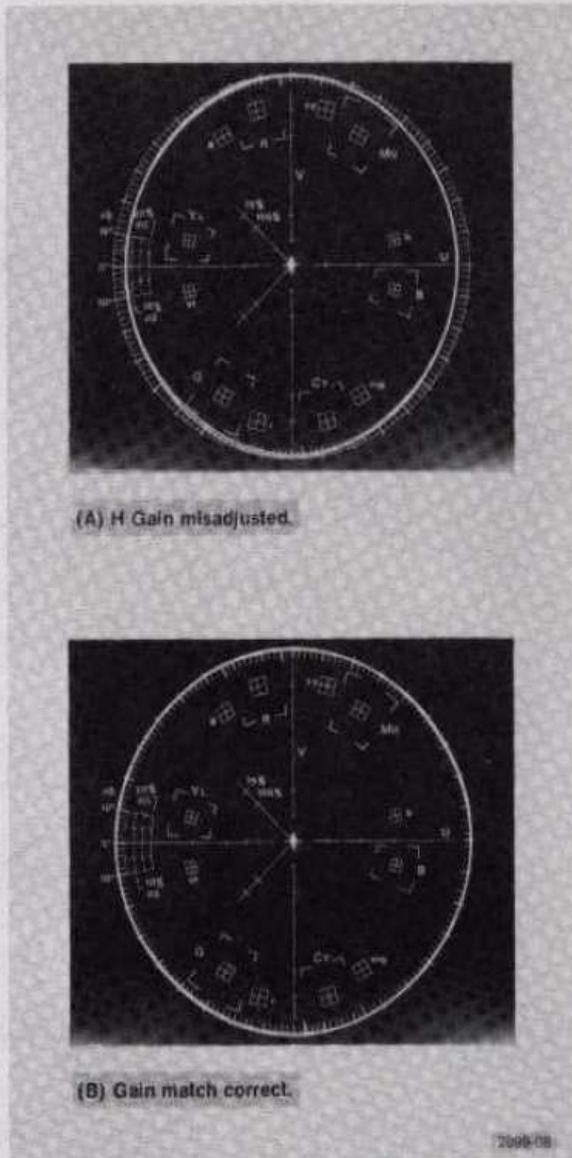

Fig. 5-31. Gain adjustment.
- c. ADJUST—R1403 (Cal Gain) until the display amplitude is within 1% of the graticule edge on the R-Y (V) axis. See Fig. 5-31.
- d. ADJUST—R1759 (H Gain) until the display amplitude is within 1% of the graticule edge on the B-Y (U) axis. See Fig. 5-31.